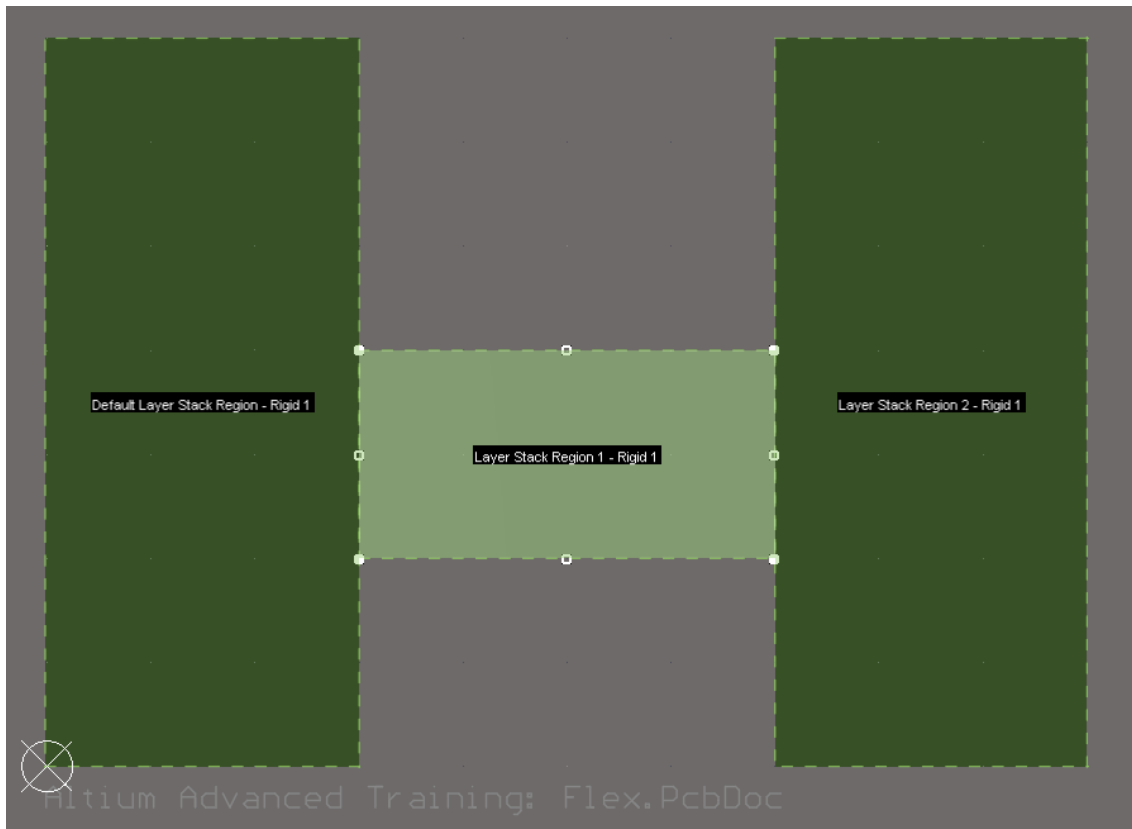

Figure 5. Board with three Board Regions
18. You should be able to click on the 3 Board Regions. This indicates that the board outline now has three sections, as shown in Figure 5 below.